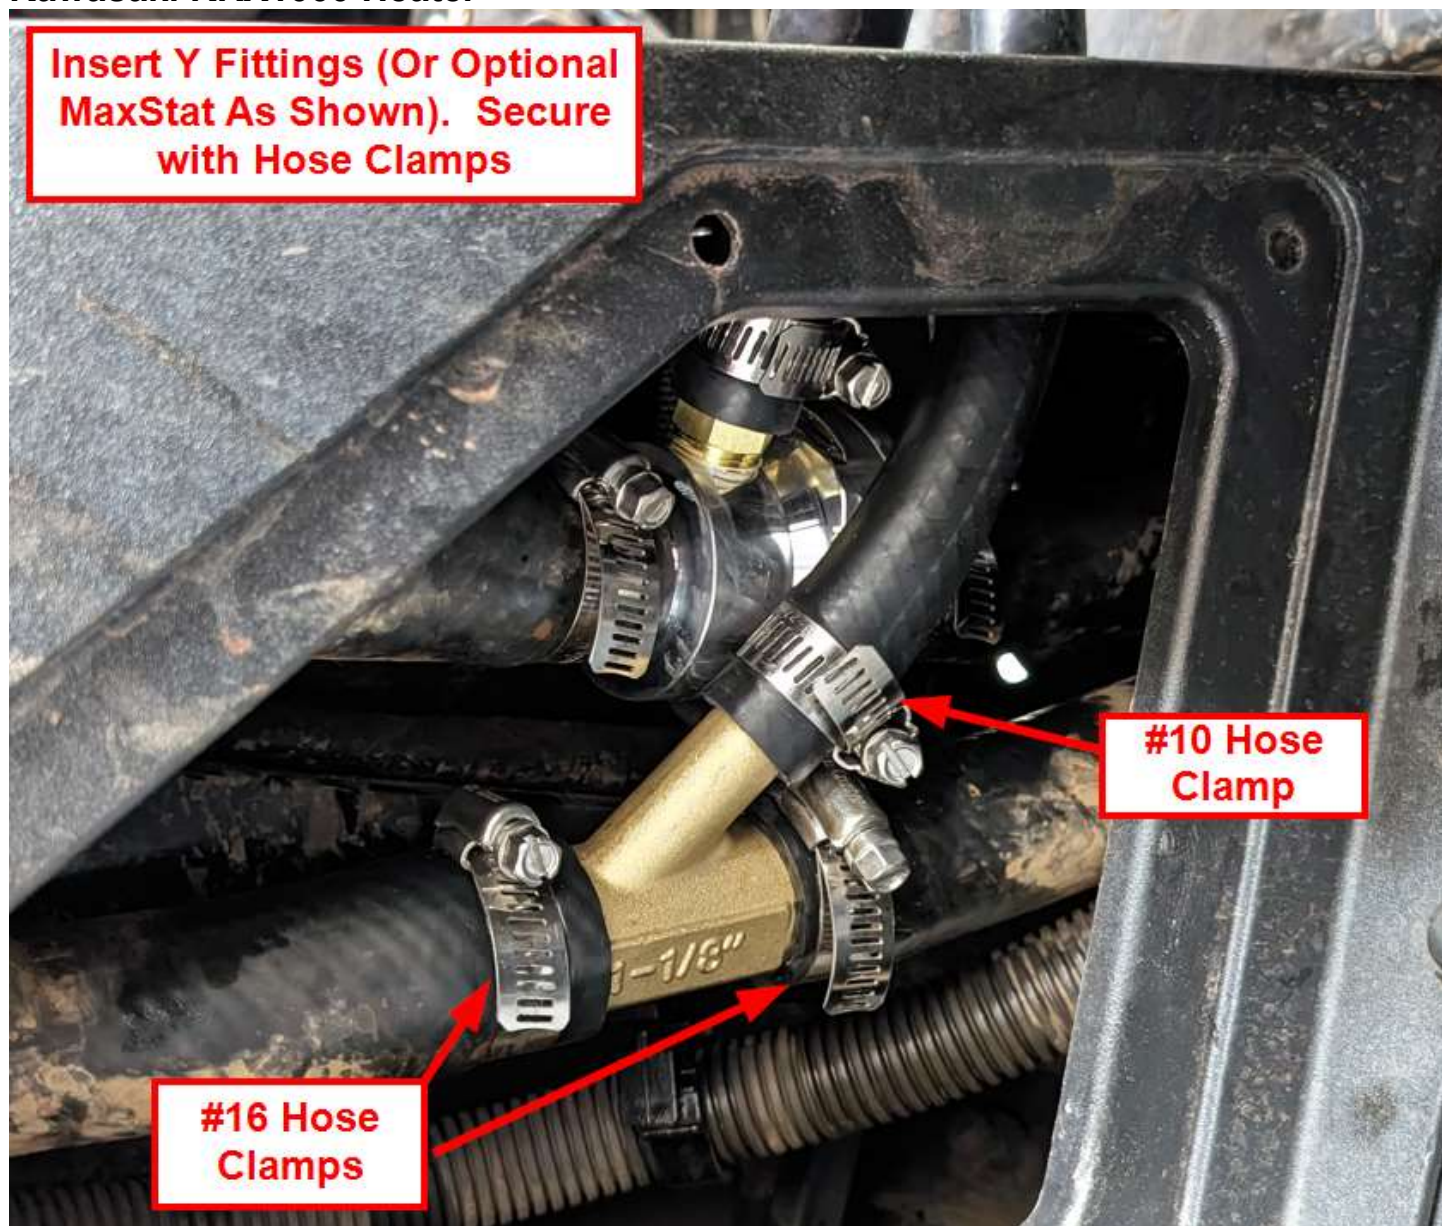

Figure 10
- b. Insert the Y Fittings (Or Optional MaxStat) as shown in Figure 10. The Y Fittings should face the radiator for proper performance.